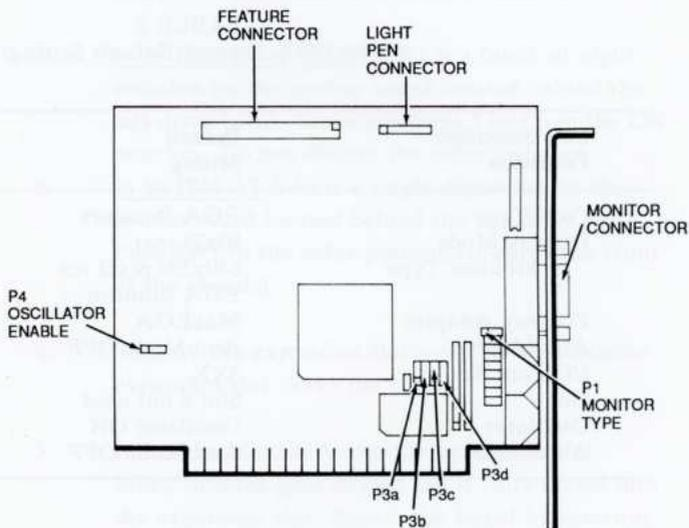

Figure 1: The MaxEGA
Each time you change a jumper or switch, your MaxEGA conveys a different bit of information to your computer. So, your settings must be compatible with your computer configuration. This section provides the information you need if you would like to change the MaxEGA's default configuration. Figure 1 shows the location of all the jumpers and switches.
3. **If your choice is not asterisked**, locate the jumper in Figure 1, then change the setting using the illustrations in Table 3 as a guide.
1. Locate the block of eight dipswitches on the MaxEGA's endplate. Refer to Figure 1 to locate dipswitch block SW.